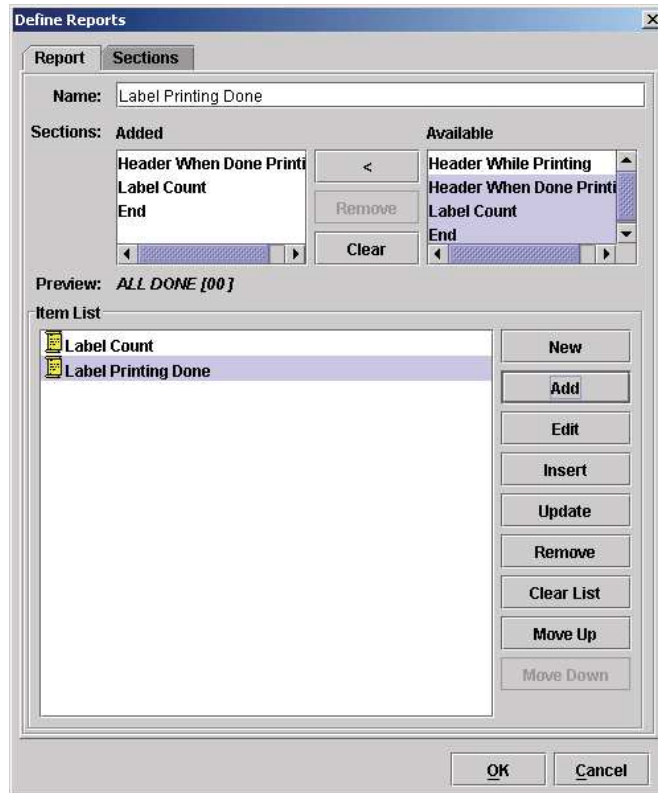

Figure 215 Adding Sections to a Report
13. Click the **Add** button. Label Printing Done is added to the item list. See Figure 215.